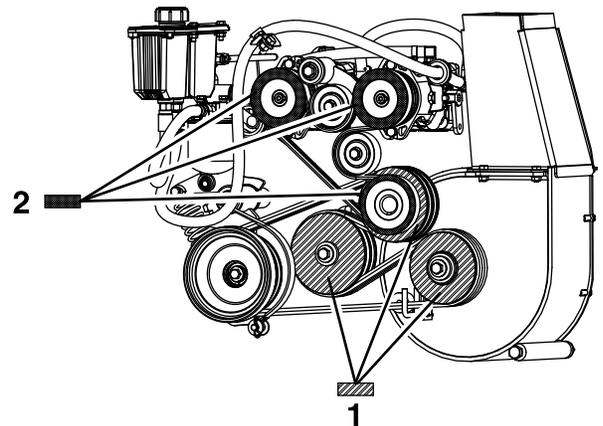

Figure 66
8. Measuring from the blower pulley as a baseline, move the engine and jackshaft until the rear surface of all 3 pulleys are aligned within 0.8 to 1.6 mm (1/32 inch to 1/16 inch) (Figure 66).
4. Using a straight edge, align each pump pulley with the engine pulley by sliding it along the pump shaft (Figure 66).